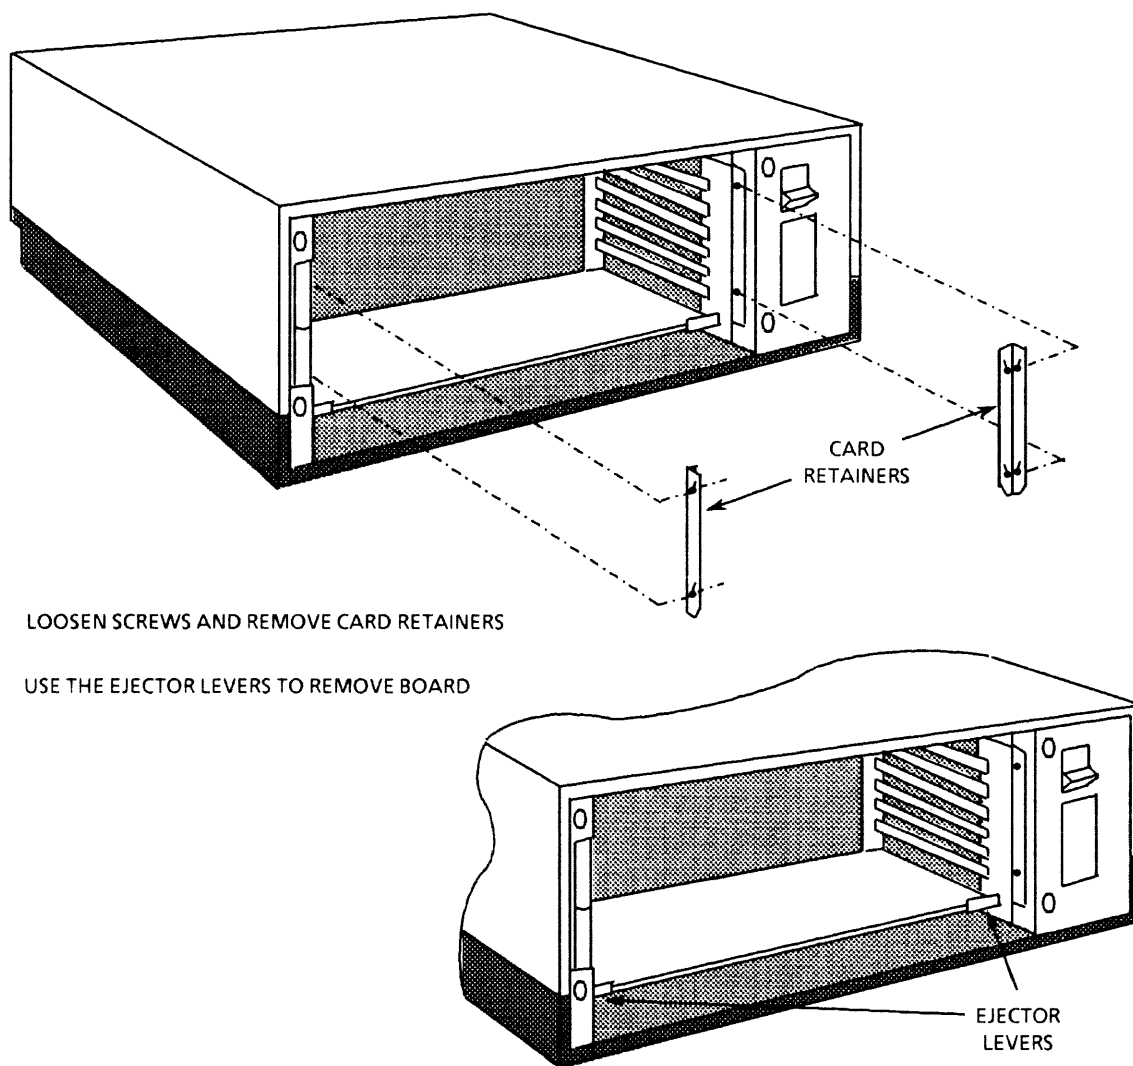

Figure 2-5. Removing Boards from the Cardcage
4. Loosen the four screws, two on each side, that hold the card retainers on each side of the cardcage; it isn't necessary to remove the screws. Remove the card retainers (Figure 2-5).
5. Place your thumbs on the inside edge of the white ejector levers of the board and pull toward you (Figure 2-5). The board will pop loose from its connector on the backplane.